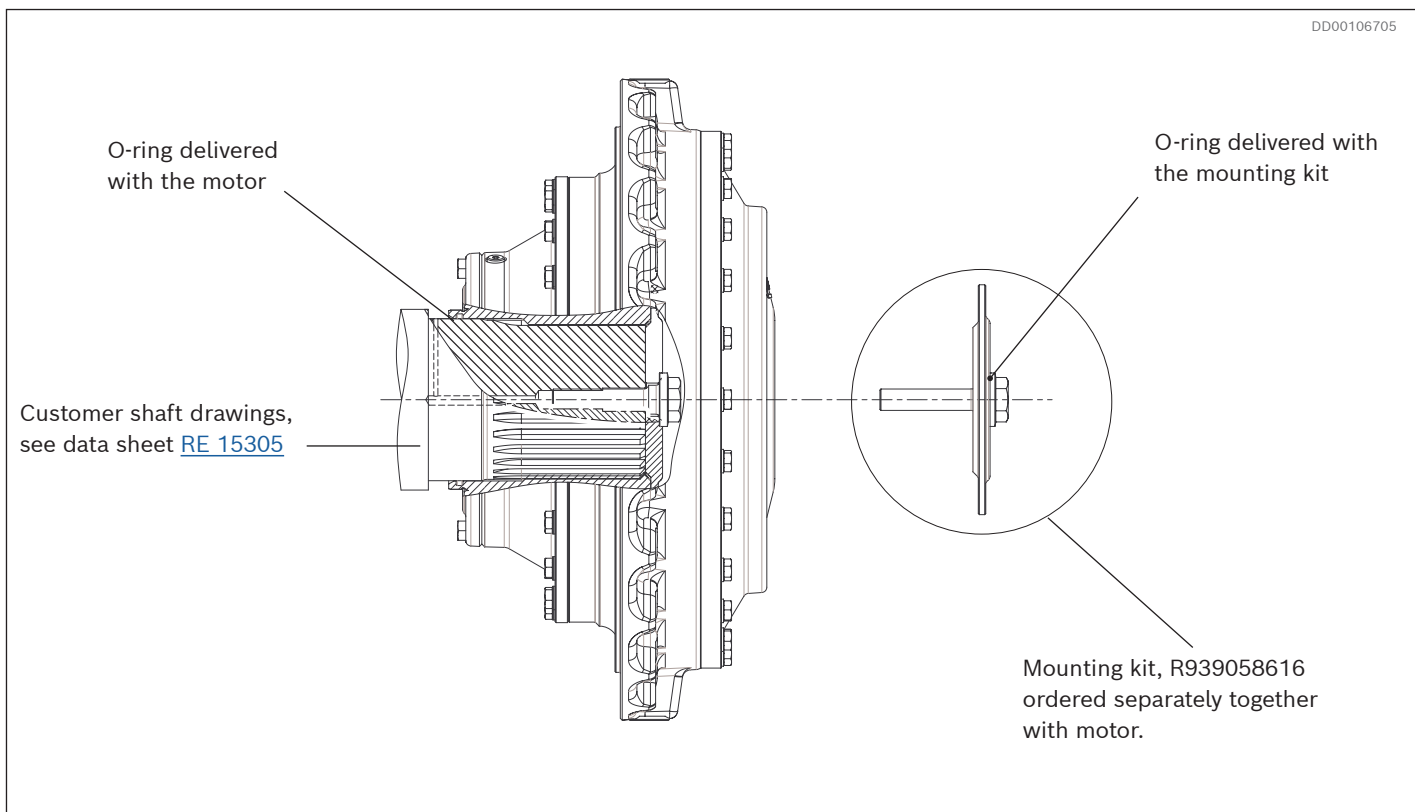

Fig. 18: Example torque arm mounted MDA 14 and MDA 21 on customer shaft
- Mounting kit for torque arm mounted MDA 14 and MDA 21 brakes. See Fig. 18